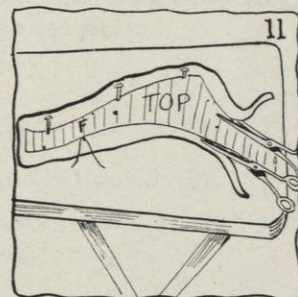

FIG. 11.
- a. While the felt or straw is stitched or pinned to the pattern, cut the edge and the headsize exactly like the pattern (see Figure 11), if no allowance is needed to sew brim to headsize. **If in doubt allow $\frac{1}{2}$ inch at headsize.**